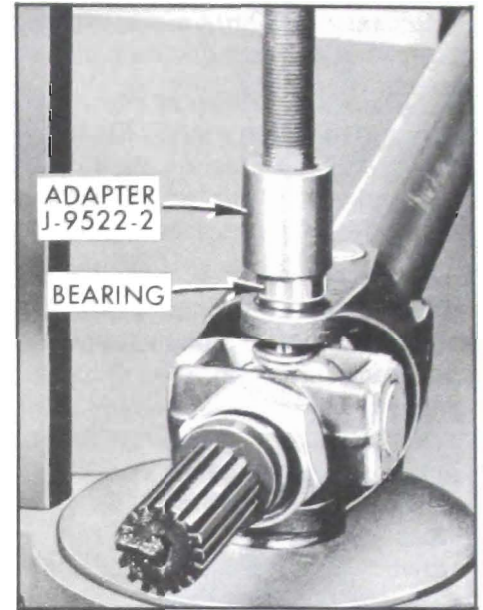

Figure 6-66—Pressing Bearing Into Position
3. Place the assembly in position with Power Ram J-6180 and Pump J-6207 as shown in Figure 6-66. Position the bearing straight over the hole in the yoke. Carefully pull up the spider so that the spider journal enters the loose bearing. With the pump, force the bearing into the yoke, continuing to hold the spider up in this bearing. Failure to do this could cause the bearing needles to become dislodged if engaged incorrectly.